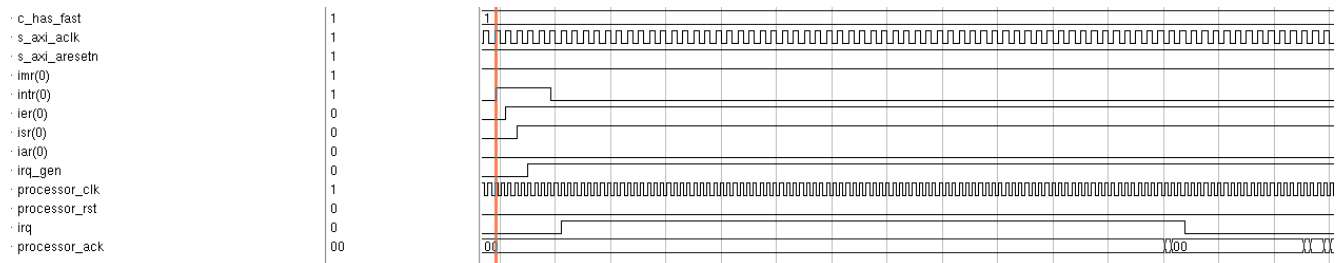

Figure 19: Input Intr - Level Sensitive (active High), C_HAS_FAST = 1 and IMR(i) = '1'
- Configured Input Interrupt (Intr) for Level sensitive (active High), include fast Logic to High (C_HAS_FAST = 1) and mode set to fast interrupt mode (IMR(i) = 1). Timing diagram is shown in Figure 19.